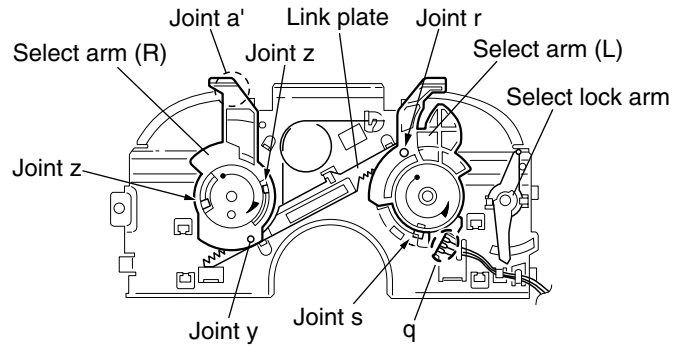

Fig.21
■ Removing the select arm (L) / select lock arm (See Fig.21 and 22)
- 1. Bring up the select arm (L) to release from the link plate (joint r) and turn in the direction of the arrow to release the joint s.
- 2. Unsolder the wire of the select arm (L) marked q if necessary.